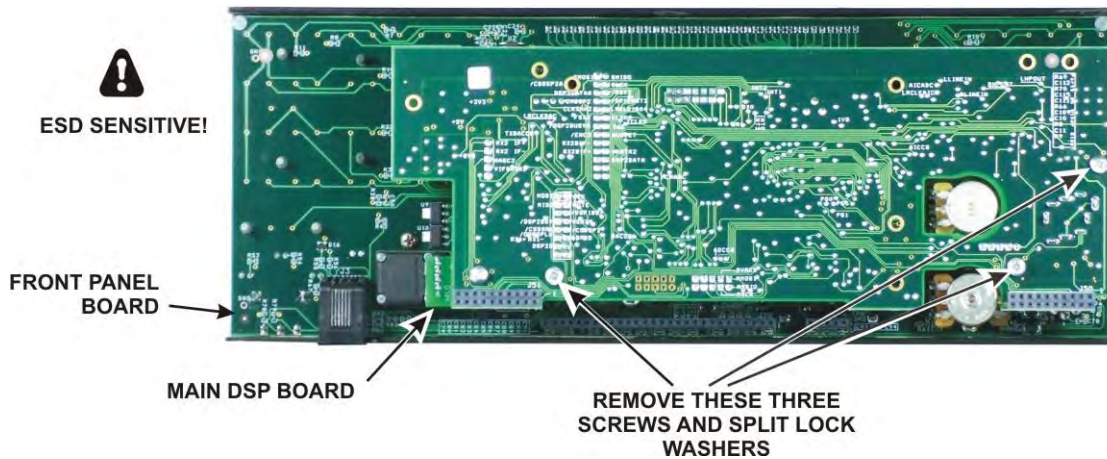

Figure 11. Removing Main DSP Board.
- Remove the three screws and split lock washers shown in Figure 11.
- Replace the three 4-40 1/4" (6.4 mm) zinc pan head screws you removed earlier with a split lock washer under each screw head (see Figure 11 on page 17).